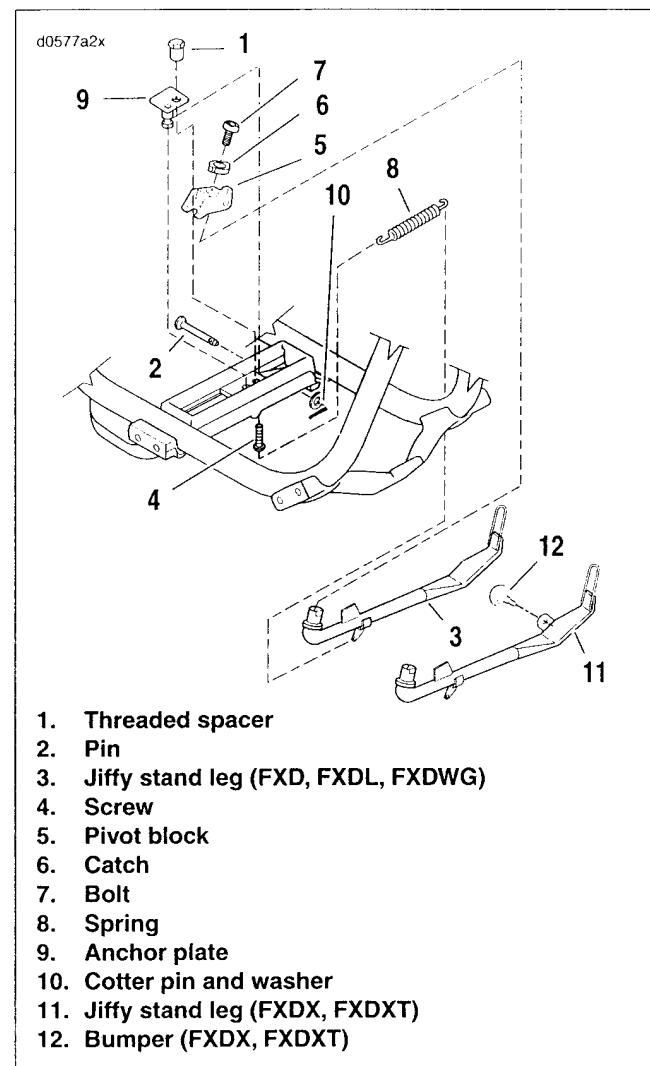

Figure 2-123. Jiffy Stand
2. See Figure 2-123. Inspect top of catch (6). If covered with dirt, wipe dirt off with a shop towel and spray catch and mating surface with LOCTITE AEROSOL ANTI-SEIZE.
4. If catch is covered with mud/grime, remove bolt (7) and catch (6).
5. Clean catch (6) and pivot block mating surface (5).
6. Spray LOCTITE AEROSOL ANTI-SEIZE on shaft of jiffy stand leg and pin (2) to lubricate the mating surface between pin and pivot block (5). Move leg back and forth and downward while spraying lubricant.
7. Assemble the catch so it engages the flats on the shaft of the jiffy stand leg and secure with bolt (7).
8. Tighten bolt (7) to 19 ft-lbs (25.8 Nm).
2. See Figure 2-123. Remove cotter pin and washer (10) from pin (2). Discard cotter pin.
3. Detach spring (8) from jiffy stand and anchor plate (9).
4. Pull pin (2) from between frame tubes. Jiffy stand and pivot block components will drop as an assembly.
1. See Figure 2-123. Place pivot block (5) and jiffy stand (3 or 11) assembly between frame tubes.
2. Insert the pin (2) from direction shown through frame tubes and pivot block (5). Secure with washer and a new cotter pin (10).
3. Attach spring (8) to anchor plate (9) and jiffy stand. When properly installed, hook on spring side connected to jiffy stand faces upward.